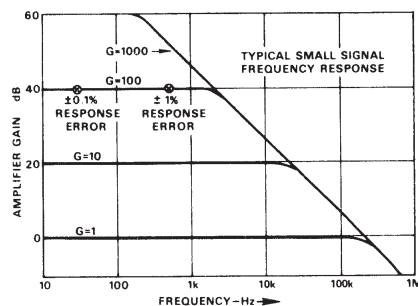

Figure 6. Small Signal Frequency Response (-3dB)
**Dynamic Performance:** Settling time and unity gain bandwidth are directly proportional to gain. As a result, dynamic performance can be predicted from the well-behaved curves of Figure 6.